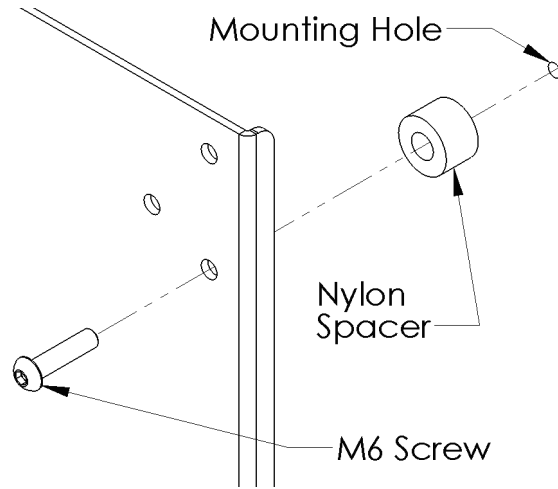
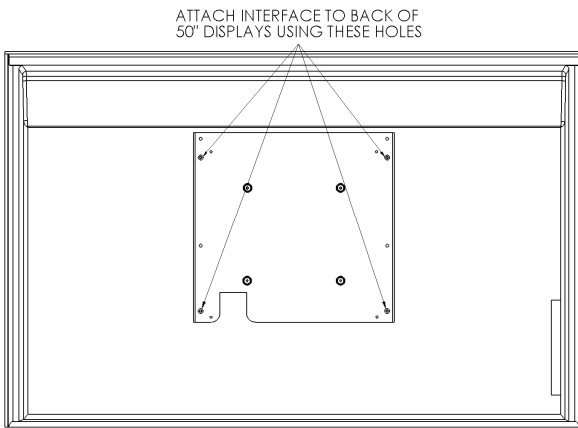
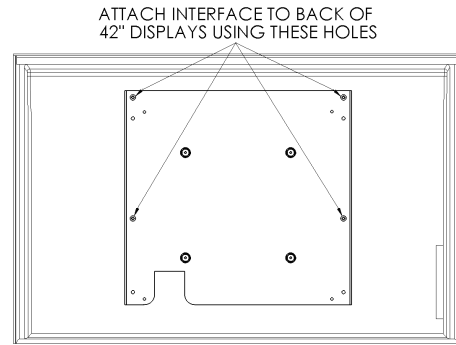

Figure 6
Figure 7A
Figure 7B
- Bracket Installation:** Attach brackets to back of display using four M6 screws and nylon spacers (see Figure 6, Figure 7A & Figure 7B). Do not over tighten screws. The plate has two sets of mounting holes.